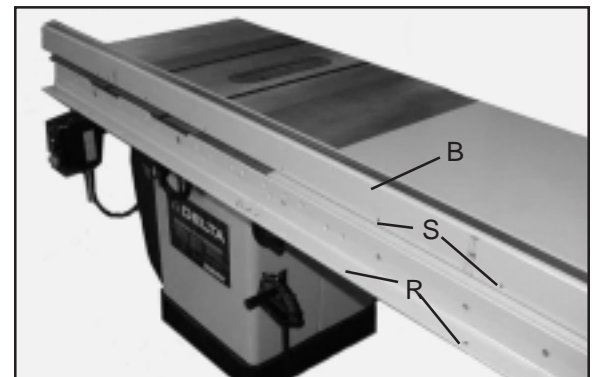

Fig. 14
11. Lay the guide tube (B) Fig. 14, on the saw table as shown, and line up the threaded holes (S) on the bottom of guide tube with the through holes (T) on the front rail. **NOTE: The guide tube should extend past the rail 6" on each end.**
12. Position the guide tube (B) on the front rail and fasten the guide tube to the rail using the 1/4-20 x 1/2" long hex head screws and lock washers. **NOTE: Where there are two holes 2-1/2" apart, use only one of the two holes.**